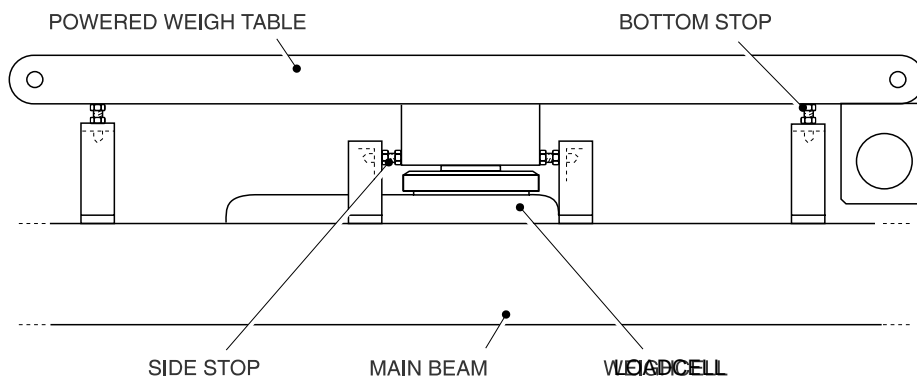

Figure 7.1 Weigh Platform Stops
1. Refer to Figure 7.1. Wind the four bottom stops and four side stops fully back, by loosening the locknuts and screwing back the stop bolts, using a 10mm A/F spanner.